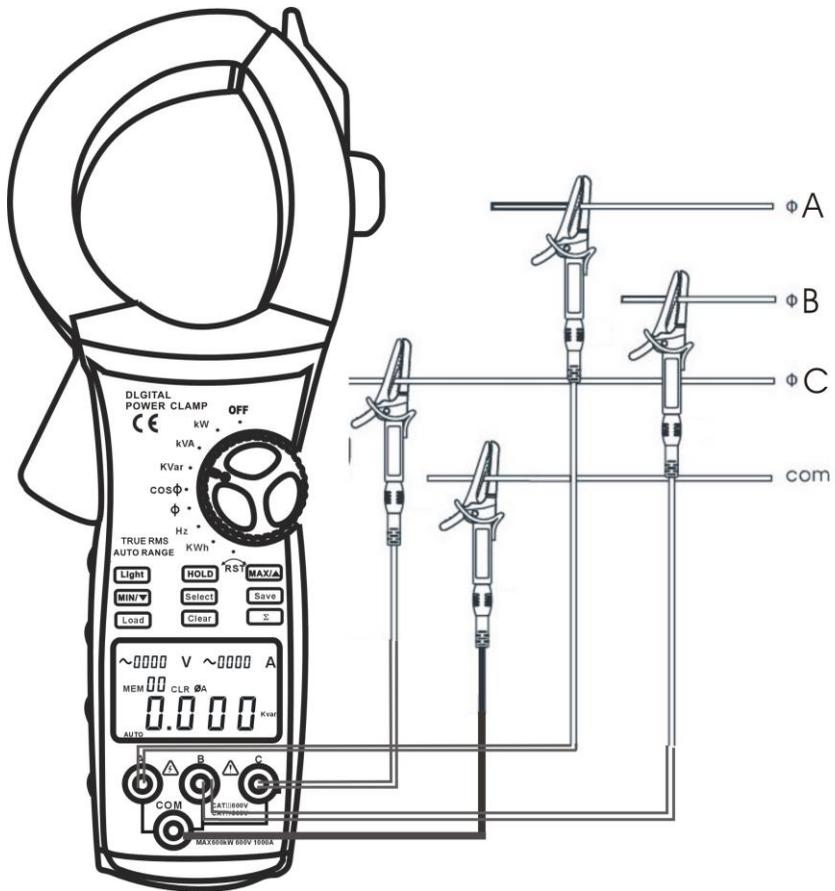

figure 6
3. Connecting method (see figure 6, 7, 8):
● When measuring 3 phase 4 wires, connect the Meter as figure 6.
3. The connecting method of 3 phases 4 wires, 3 phases 3 wires or single phase 2 wires, see figure 6, 7 and 8
3. The connecting method of 3 phase 4 wires, 3 phases 3 wires or single phase 2 wires, see figure 6, 7 and 8